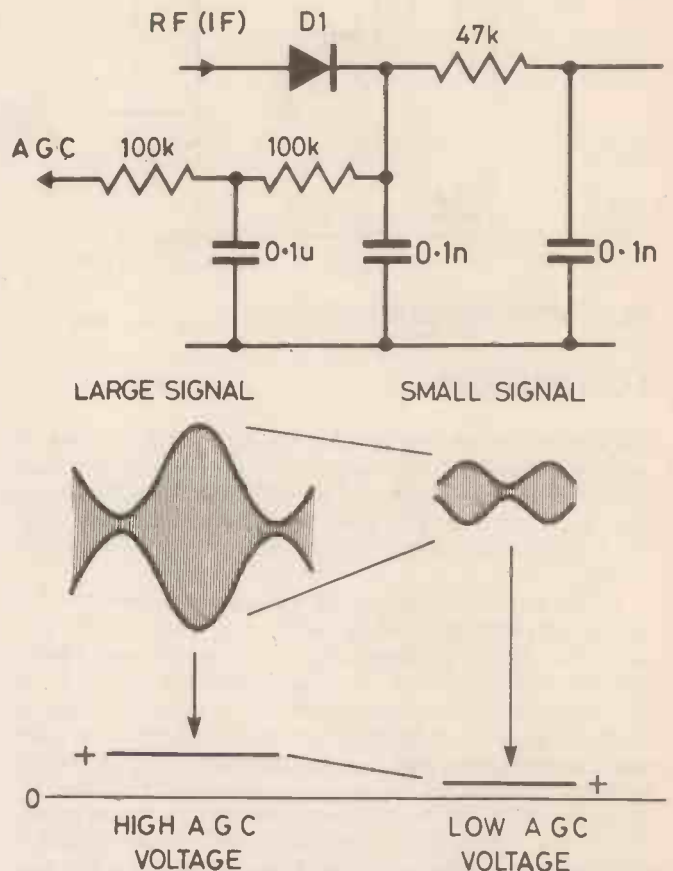

Fig. 7.11. Using the carrier amplitude to control the receiver gain (AGC).
We could, of course, sit with one hand on the receiver volume control turning up the wick each time the signal became faint and turning it down again when the signals were strong, but it's easier to use a form of negative feedback to do the job. AGC makes use of the fact that the detector diode rectifies the carrier signal, so that there's a steady (DC) voltage at the detector. The amplitude of this steady voltage is equal to the peak amplitude of the carrier, and we can filter out the audio signal changes which go along with it (Fig. 7.11). We can separate this DC signal out and use it to control the